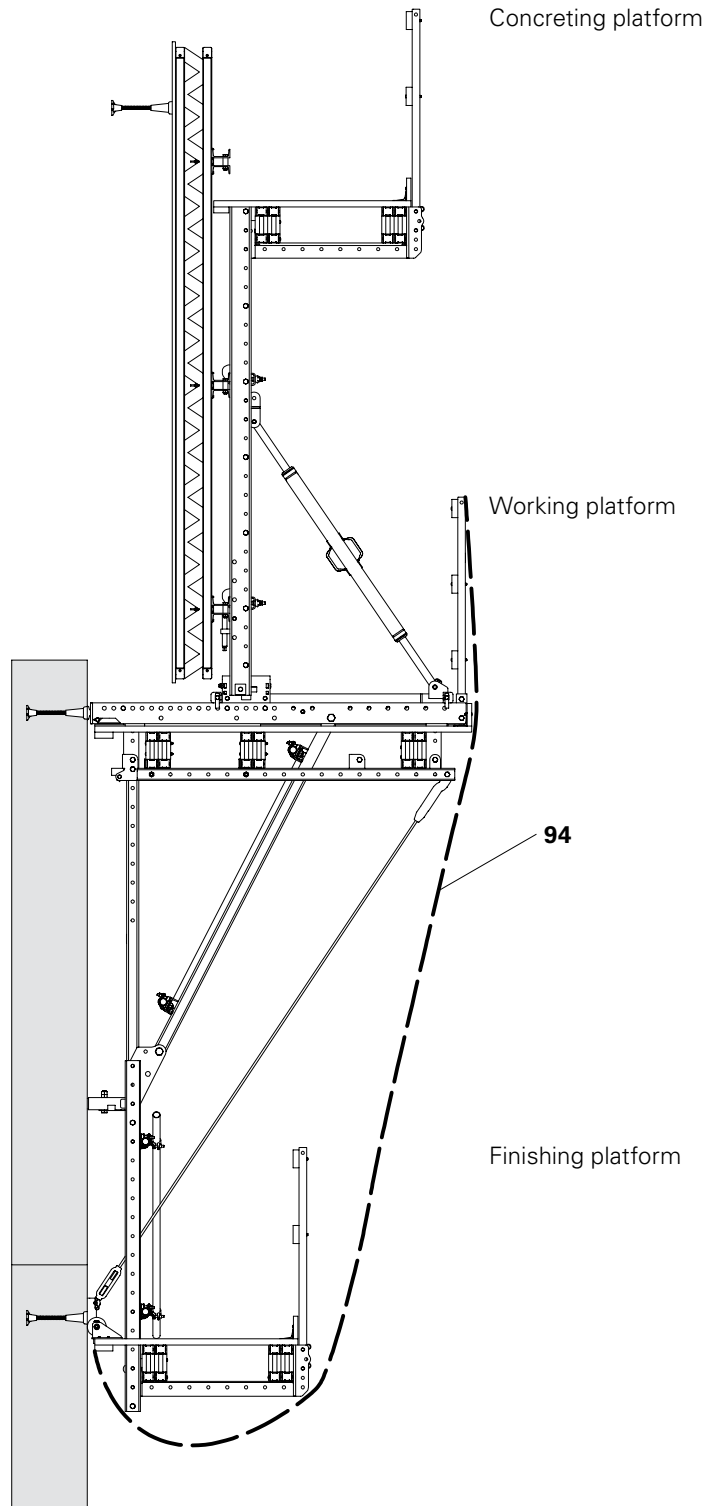

Fig. A1.01
- During working operations, we recommend a maximum distance of 20 mm between neighbouring platforms. Cover larger gaps with suitable and securely fitted materials. Alternative: use safety netting (94) with mesh size ≤ 20 .
- (Fig. A1.01)